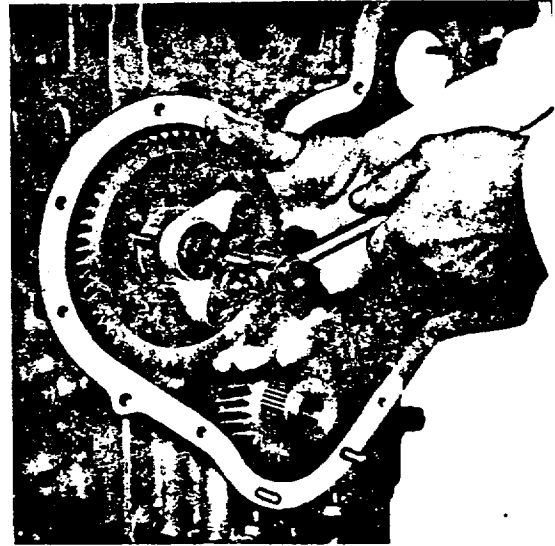

Fig. K.6.
3. Using a suitable extractor, remove the camshaft gear (see Fig. K.6).